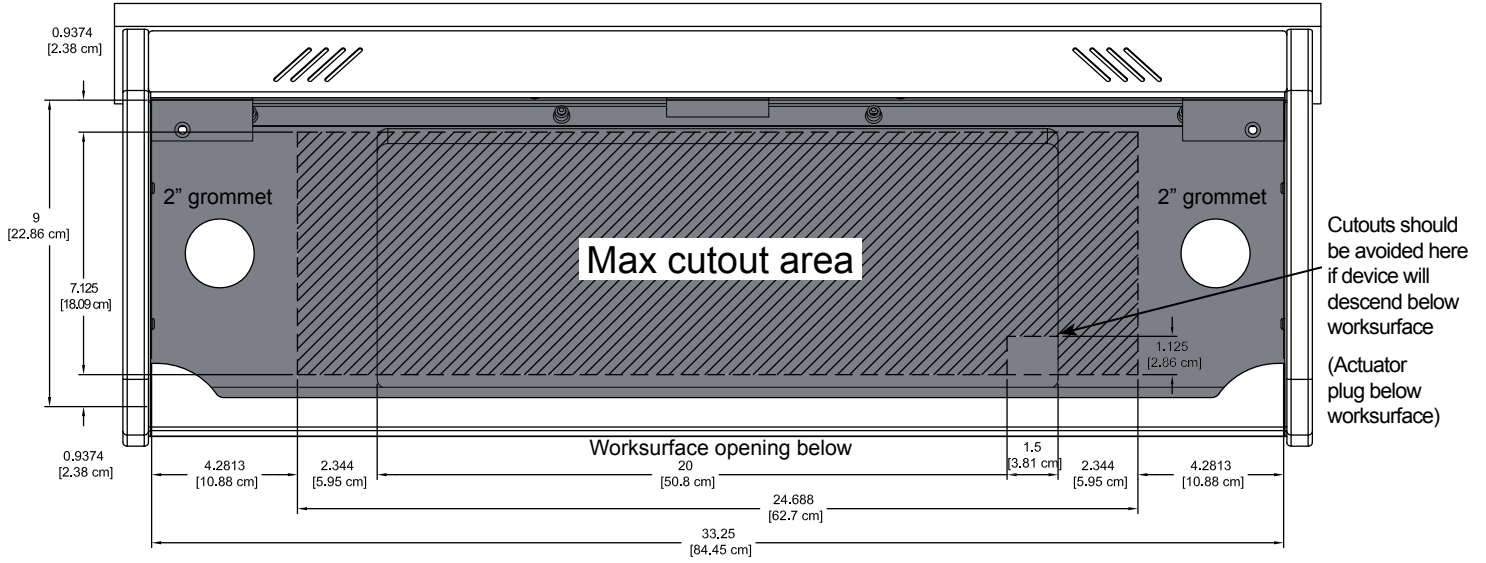

Figure 5.2
1. Identify all location(s) and sizes for controller(s) or electronics while making sure all devices fit within the maximum cutout space available in the overbridge panel. See **Figure 5.2, 5.3.**